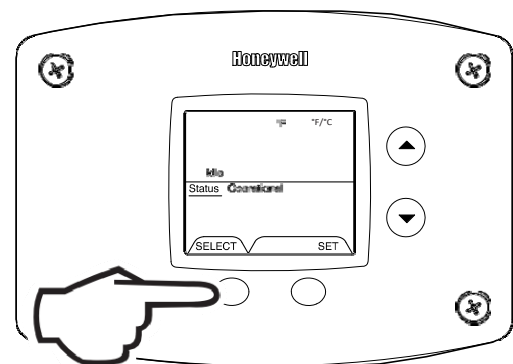

Fig. 31
1. Press 'SELECT' button until °F/ °C is displayed (Fig. 31).